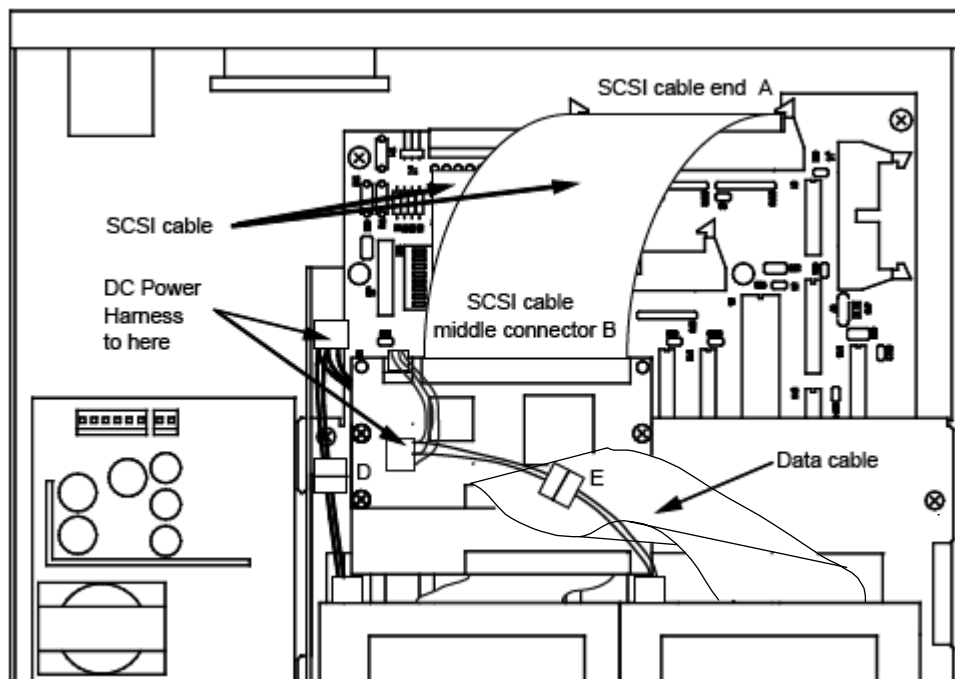

Fig. 5: Cables
40. Plug the flat ribbon SCSI cable middle connector B to the new RHD adapter. SCSI cable end C should be plugged in to the original RHD adapter underneath the B. The SCSI cable end A should be plugged in to the controller (Fig. 5).
41. Connect the Data cable from the new RHD adapter to the RHD drive (Fig. 5).
42. Connect the DC cables from the new RHD adapter to the new RHD drive (Fig. 5 point E).